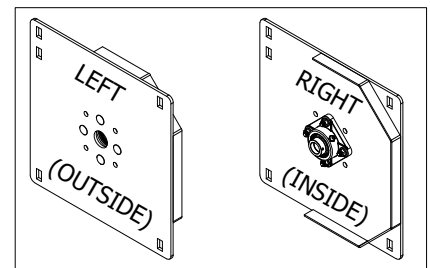
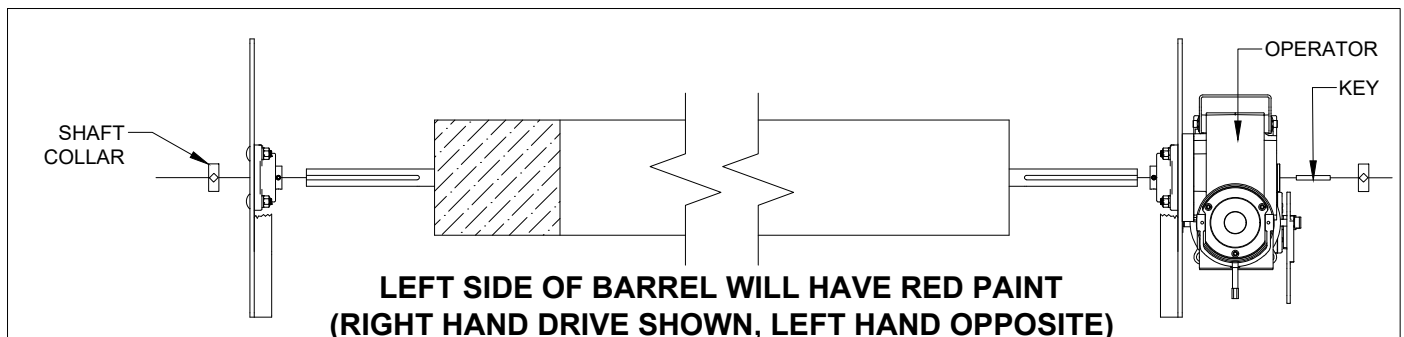

FIGURE 6
FIGURE 8
- b. Using figures 6 and 7 as a reference for Figure 8, place the barrel axles into the headplate bearings.